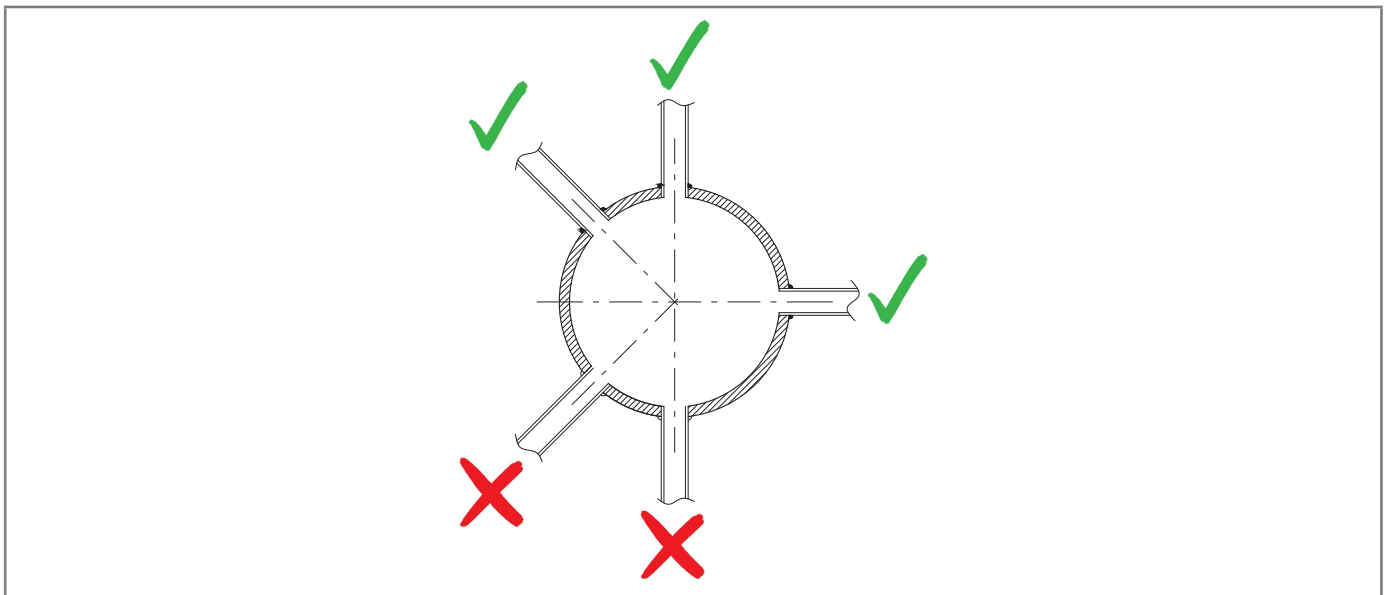

Fig. 6.14. Welded pipe connections
- the connections of the pneumatic connection are always welded to the top or horizontal axis of the pipe itself (refer to Fig. 6.14);